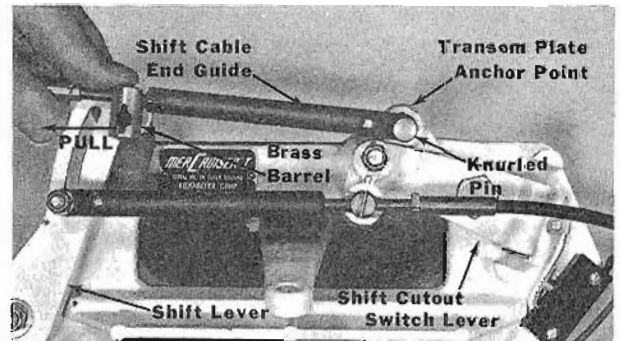

Figure 2. Adjusting Brass Barrel
- c. Anchor remote control shift cable end guide to transom plate anchor point with knurled pin. Pull outer conduit away from cable guide, to eliminate slack in cable, and adjust brass barrel on remote control shift cable to align with mounting hole in shift lever. (Figure 2)